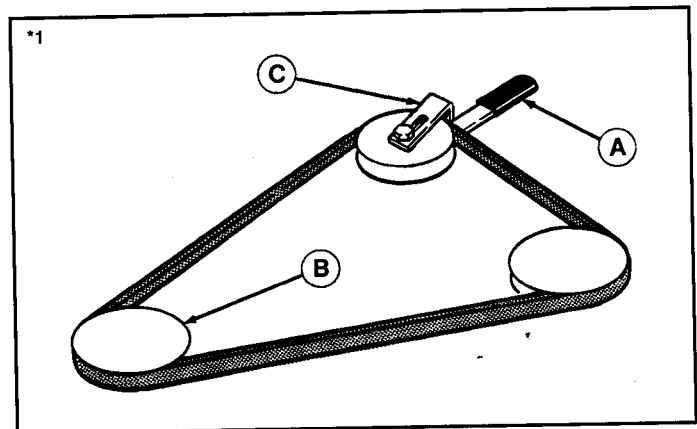

Figure 38. Mower Belt Routing - 44" Mower Deck
3. Push the idler arm (A, Figure 38) away from you to relieve belt tension. Drop belt from the PTO (electric clutch) pulley.
6. Position the bracket belt stop (C, Figure 38) up against arm (A) so that there is a 1/8" gap between pulley and belt stop.